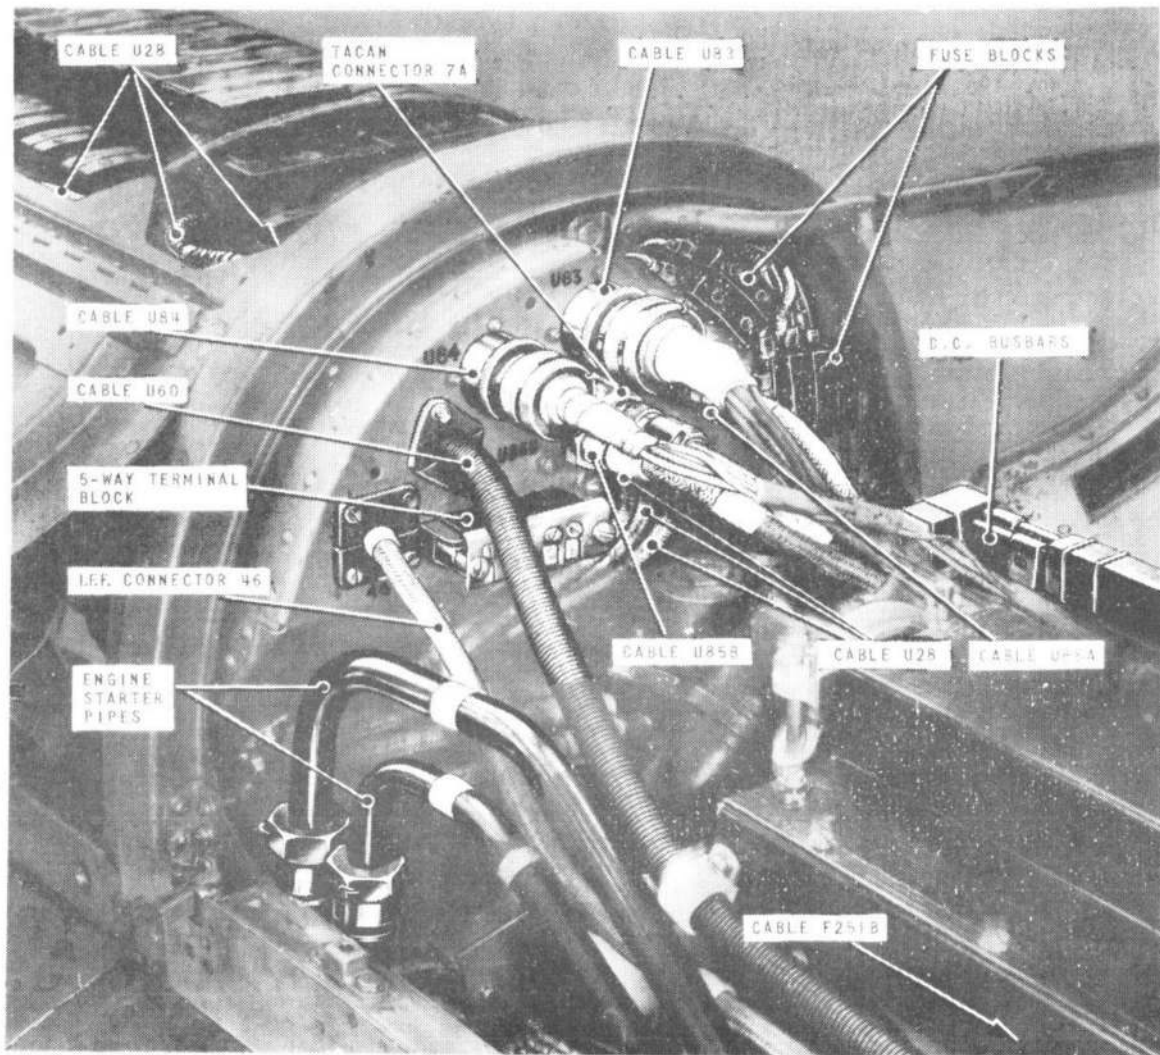

Fig.6. Equipment at transport joint (spine)
(24) Open the spine fairing aft of the transport joint, and access panel 31S. Disconnect the following electrical components (*fig.6*):-
(c) Blank off the fuel pipe at frame 25 in the spine (fig.6).